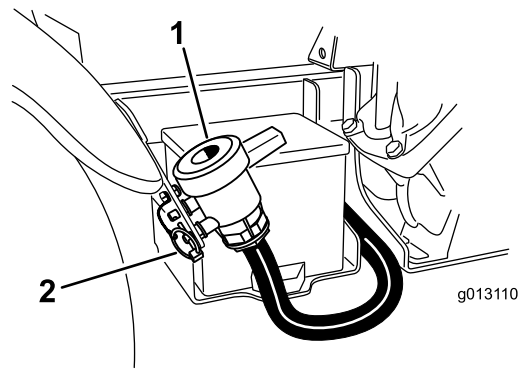

Figure 26
2. Locate the tank drain valve on the right side of the machine (Figure 26). The valve is on the fender bracket next to the battery.